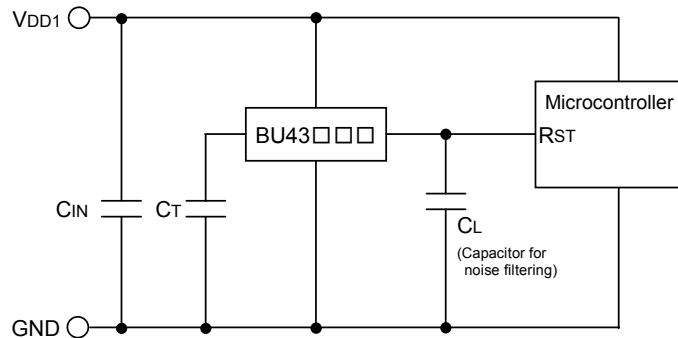

Fig.19 CMOS Output type
CASE2: The power supply of the microcontroller (Vdd1) is same as the power supply of the reset detection (Vdd1). Use CMOS output type (BU43□□G/FVE) or Open Drain Output Type (BU42□□G/FVE) attached a load resistance (RL) between the output and Vdd1. (As shown Figure 19)